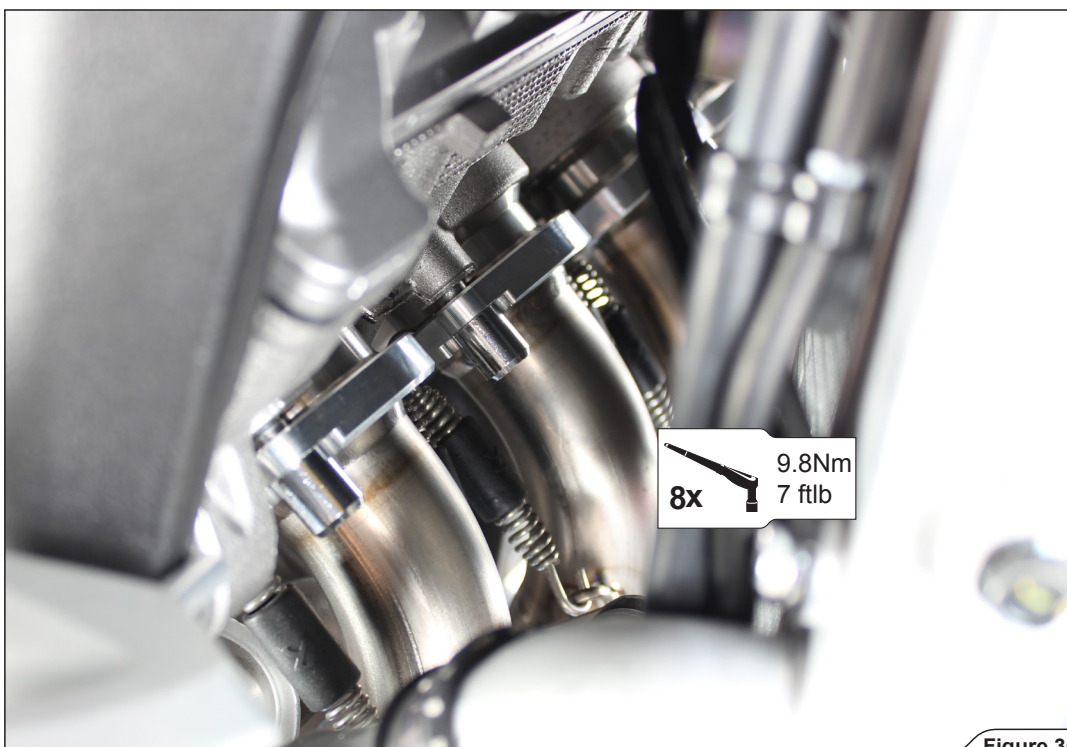

Figure 30
8. Insert the headers into the sleeves, attach the springs, install the link-pipe bracket using nut from Akrapovič installation kit and stock bolt and washer. Attach lambda sensors and tighten the flanges, bracket bolt and both lambda sensors to specified torques (Figure 30, 31, 32).